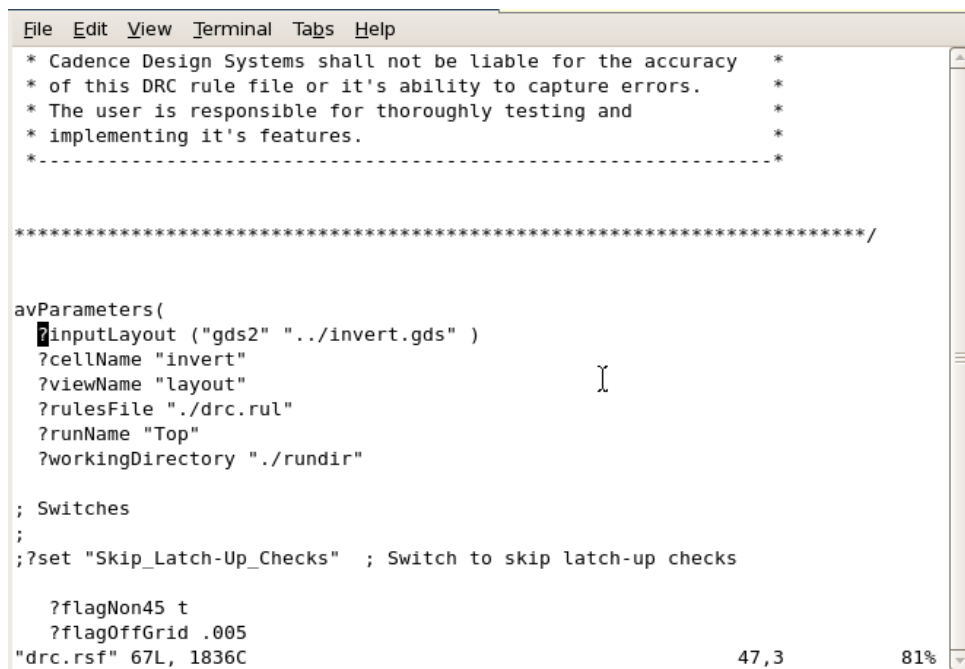

Fig.28
1. Edit Assura DRC RSF file to specify the necessary information (Fig 28).